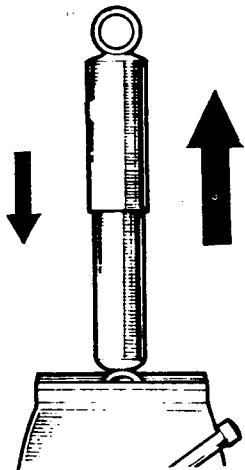

Fig I3.3
- (2) Refer to Fig I3.3. Secure the shock absorber vertically in a vice by holding the bottom fixing between the jaws.
- (3) The shock absorber incorporates differential damping, having greater resistance on the extension stroke. Check the operation by extending and compressing the shock absorber, there must be a uniform resistance throughout the length of the stroke. If the resistance is erratic or weak, fit a new shock absorber.